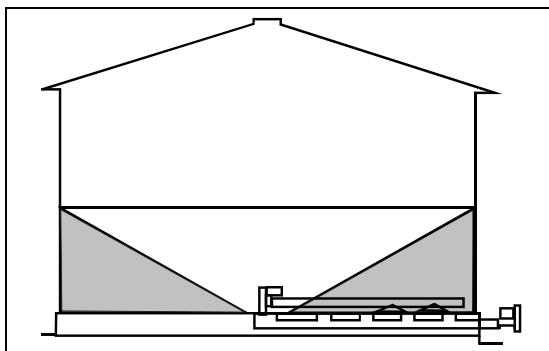
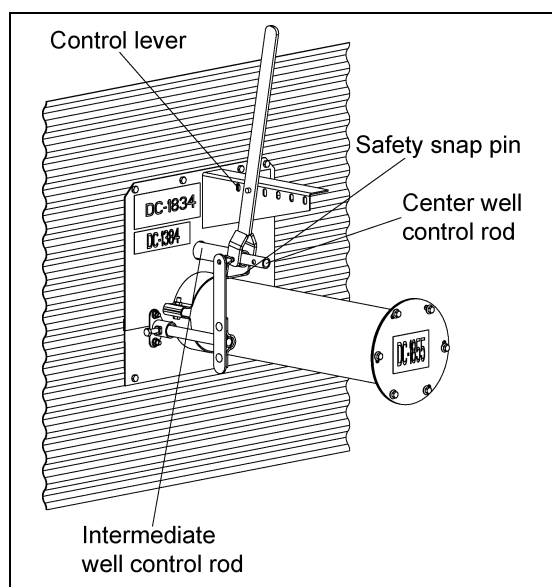

Figure 5D
Figure 5E
5. When grain flow stops from the center well, close the center well gate. Insert the safety snap pin through the control lever and both the intermediate and center well control rods as Figure 5E. The remaining grain should look similar to Figure 5D.
5. When grain flow stops from the center well, close the center well gate. Insert the intermediate well bolt through the intermediate well control rod and the center well control rod. Remaining grain should look like Figure 5D on Page 40.